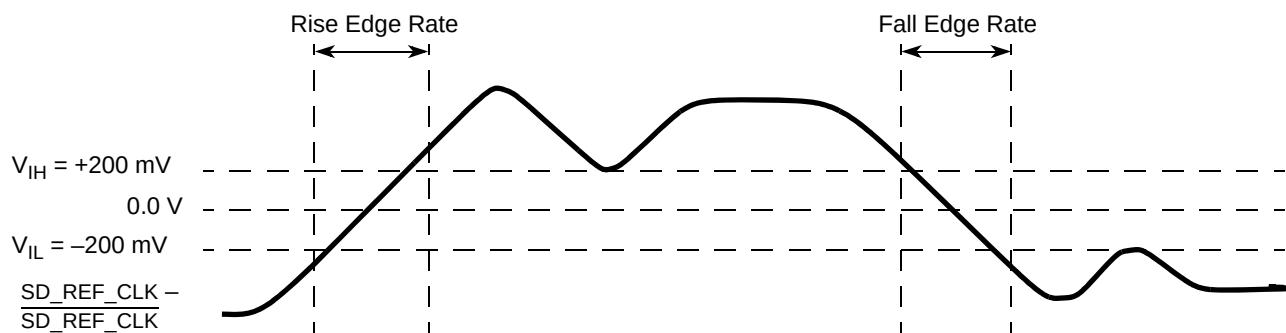

Figure 52. Differential Measurement Points for Rise and Fall Time
1. The differential waveform is constructed by subtracting the inverting signal ($\overline{\text{SDn_TX}}$, for example) from the non-inverting signal (SDn_TX , for example) within a differential pair. There is only one signal trace curve in a differential waveform. The voltage represented in the differential waveform is not referenced to ground. Refer to Figure 52 as an example for differential waveform.
3. Measured from -200 mV to +200 mV on the differential waveform (derived from SDn_REF_CLK minus $\overline{SDn_REF_CLK}$). The signal must be monotonic through the measurement region for rise and fall time. The 400 mV measurement window is centered on the differential zero crossing. See Figure 52.